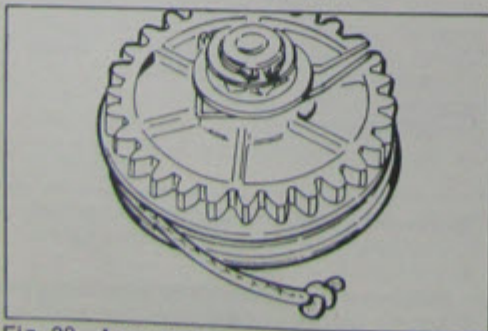

Fig. 28 Assy gear - pulley
- For further disassembly remove central fixing screw (3) and remove pulley assy (see Fig. 28).